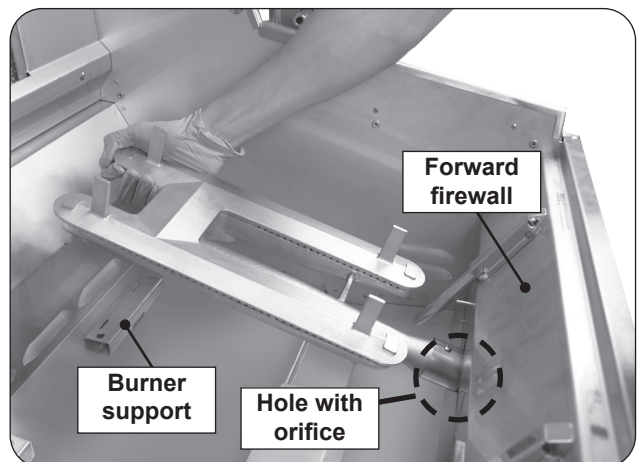

Fig. 47-2 Remove burners
3. Carefully lift the burner from the burner support and out from the hole in the forward fire wall. See Fig. 47-2.